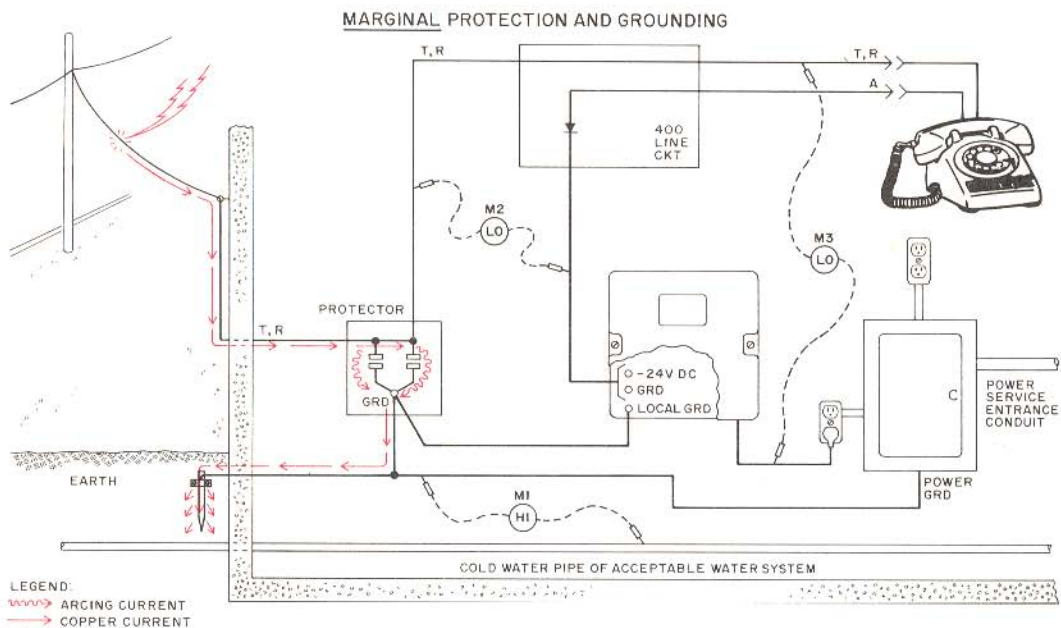

Fig. 16—All Grounds Bonded to Ground Rod
6.08 A ground rod is used to ground all system points in the installation shown in Fig. 16. This diagram illustrates how a ground, which is not the best available, can offer system protection as long as all grounds are connected to this point. Note, however, that high-voltage levels can develop between this system and the local water system (meter M1) or with respect to local building steel. Arcing could occur from some part of this installation to a nearby water pipe.